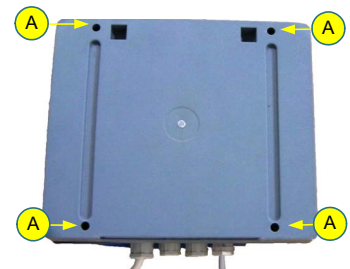
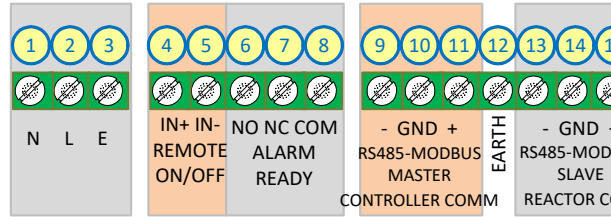

Figure 5-18: Control Module's Back
Figure 5-20: Control Module Terminal Connectors
Step 2. To connect an **External On/Off** signal, thread the signal cable through one of the holes with plastic glands on the bottom (5) and connect the wires to the appropriate connectors as show to the right (6) and as shown in **Figure 5-20** as terminals 4 and 5 (corresponding to 6 in **Figure 5-18**).
Step 3. To connect a.n **General Alarm** signal, thread the signal cable through one of the holes with plastic glands on the bottom (5) and connect the wires to the appropriate connectors as show to the right (6) and as shown in **Figure 5-20** as terminals 6, 7 and 8 (corresponding to 6 in **Figure 5-18**).
Step 4. To connect to an external facility control via Modbus, thread the signal cable through one of the holes with plastic glands on the bottom (5) and connect the wires to the appropriate connectors as show to the right (7) and as shown in **Figure 5-20** as terminals 12, 13, 14 and 15 (corresponding to 6 in **Figure 5-20**). For more information, see **Appendix A, Modbus Communication Protocol**. Add jumpers to any unused pins as shown in the diagram below.
- Unfasten the Data cable from the connectors as show to the above (7) as terminals 9, 10 and 11 (- GND +) (corresponding to 6 in Figure 5-18).
- Loosen the plastic nut of gland (2) and pull it through and out of the plastic gland at the bottom.
- Thread the longer Data cable through its plastic gland (2) and fasten it to the appropriate connectors mentioned above.
- Step 3.** Using the appropriate screwdriver, refasten the screws in the **Control Module (A in Figure 5-18)**.